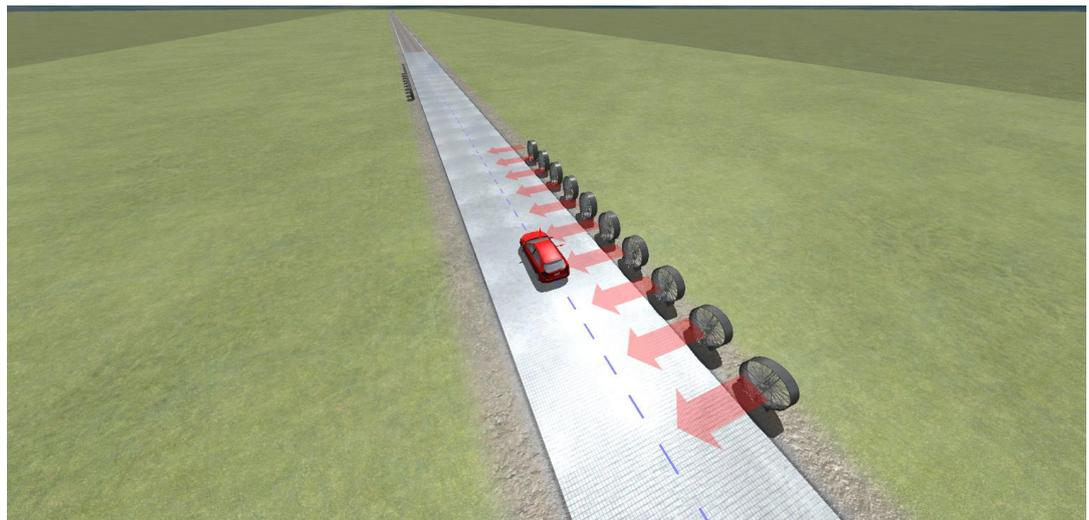

Figure 1: Crosswind Procedure setup
- Crosswind of 100 km/h from the left and right fans as shown in Figure 1
- c) 10% increase in aerodynamics coefficient as shown in Figure 1 to 6